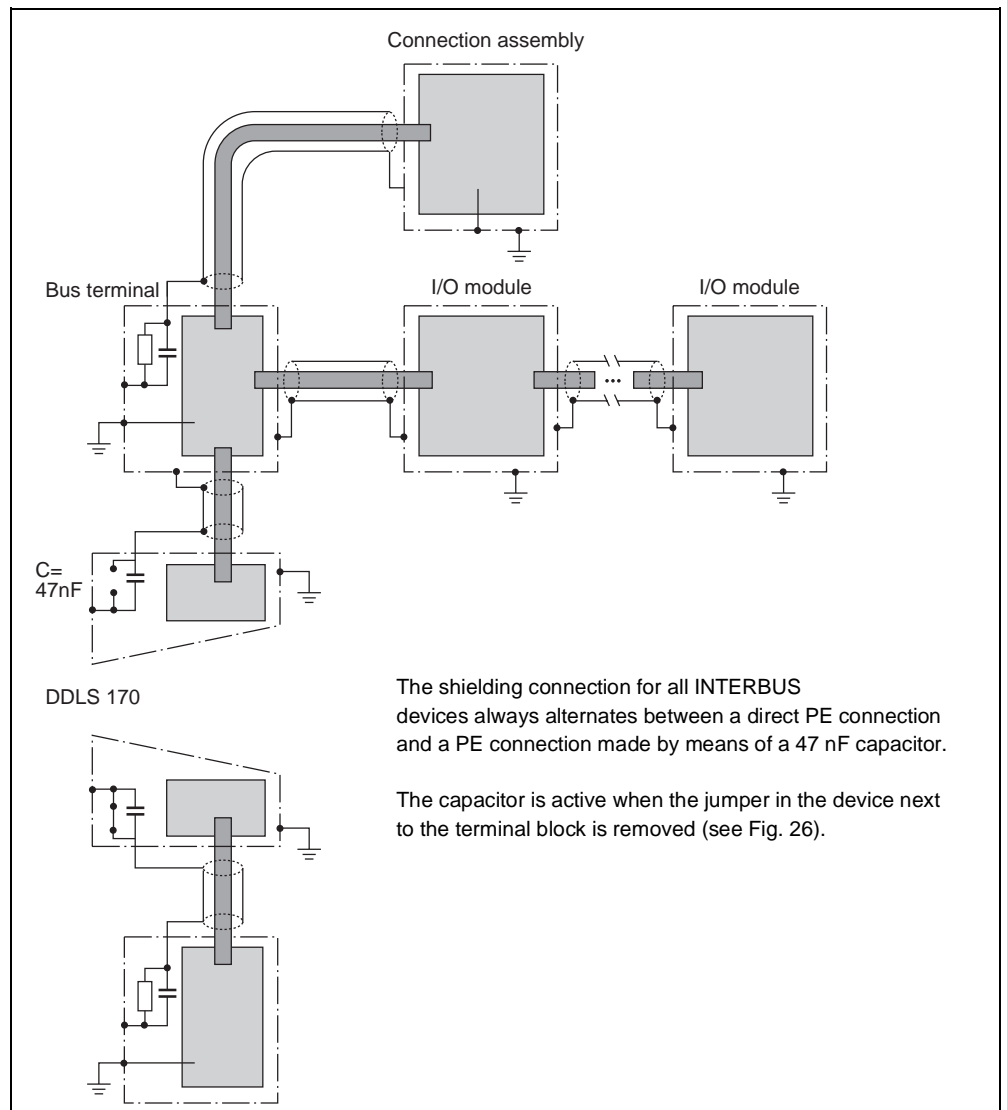

Fig. 25: DDLS 170 - INTERBUS shielding
- Connect shielding as shown in Fig. 25.